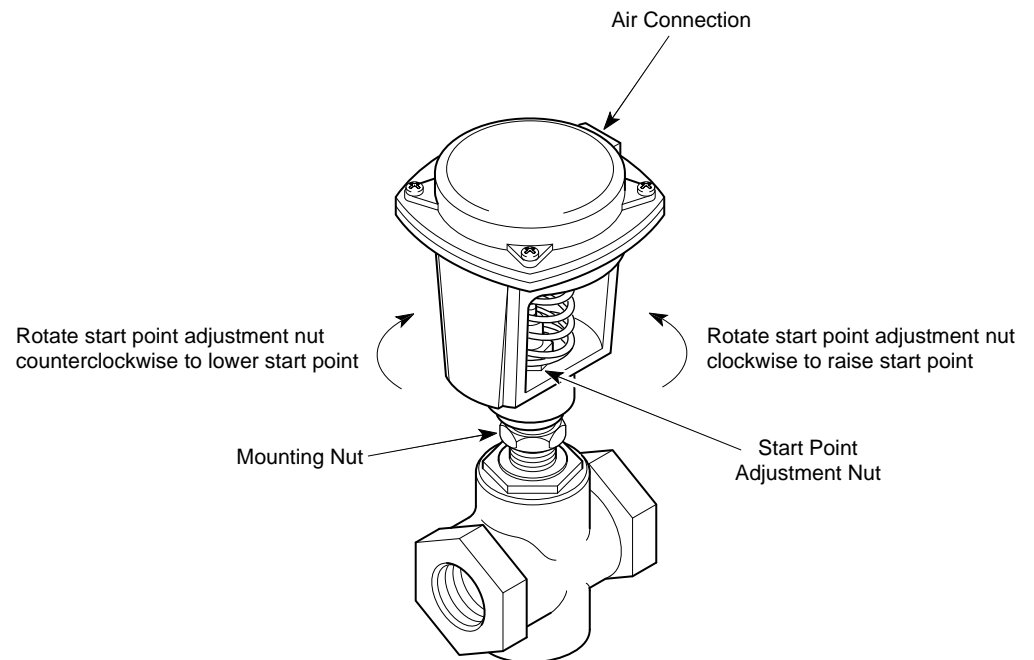

Figure-2 Actuator Start Point Adjustment.
2. Rotate the start point adjustment nut in the appropriate direction until the desired start point is reached (see Figure-2):